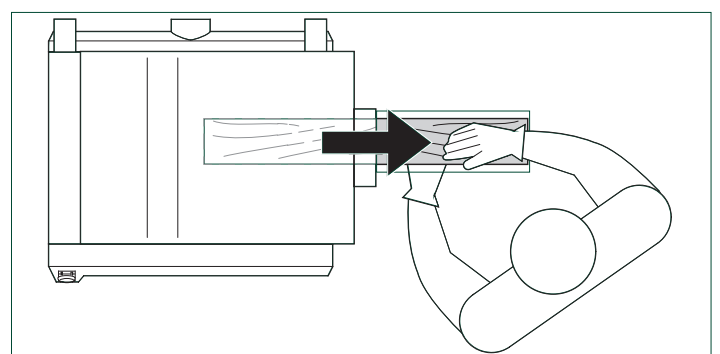

FIG. 48
2. To remove the workpiece from the machine, position yourself offset to one side of the outfeed opening. FIG. 48. Do not pull the lumber as it exits the machine. Let the outfeed roller move the workpiece out of the planer at its own rate, but support the lumber as it extends past the extension rollers, if needed.